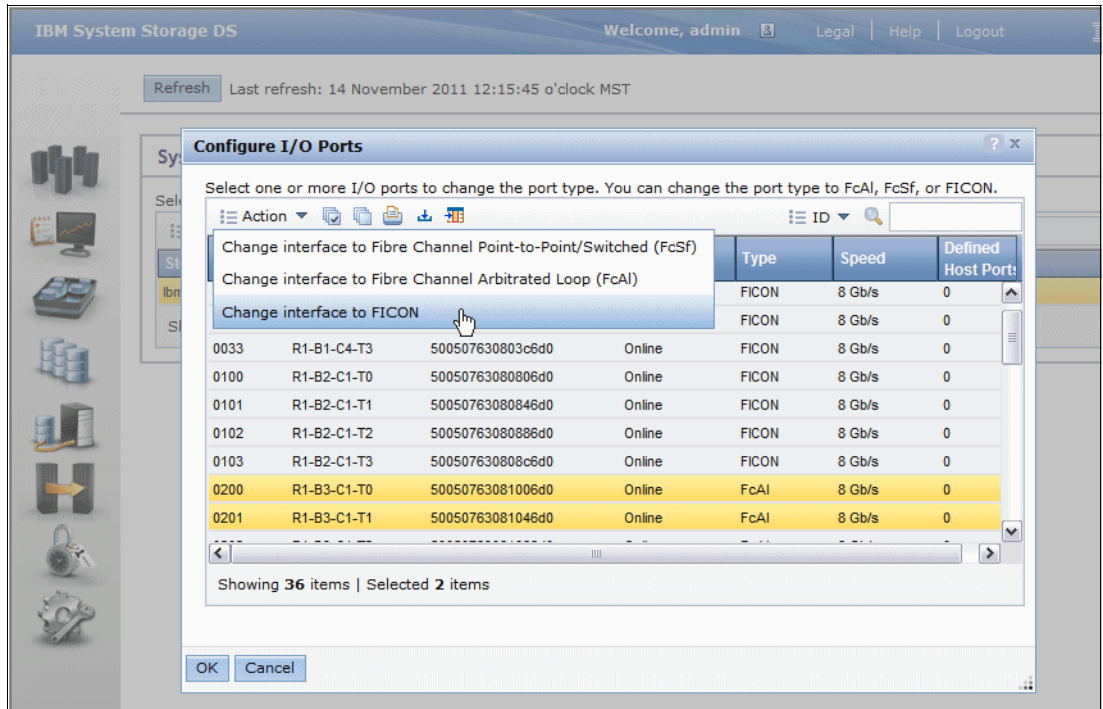

Figure D-5 DS8000 GUI Configure I/O Ports window
- On the Configure I/O Ports window, Figure D-5 on page 424, both the port number and location code of I/O ports are shown. Select the port you want to configure by clicking the corresponding row. Multiple port selection is supported. The selected rows are highlighted in yellow.